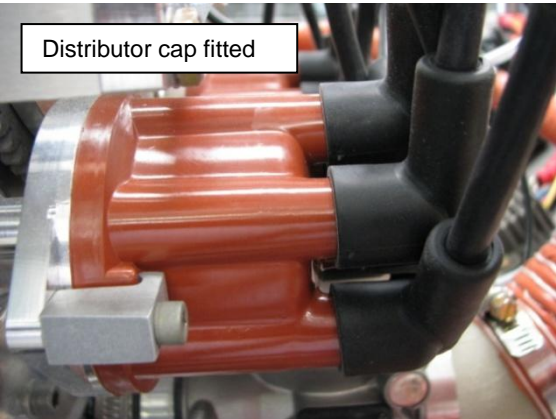

Figure 175 – Distributor Cap Installation
- Assemble the high-tension leads onto the engine, cable-tying them as shown in Figure 175.